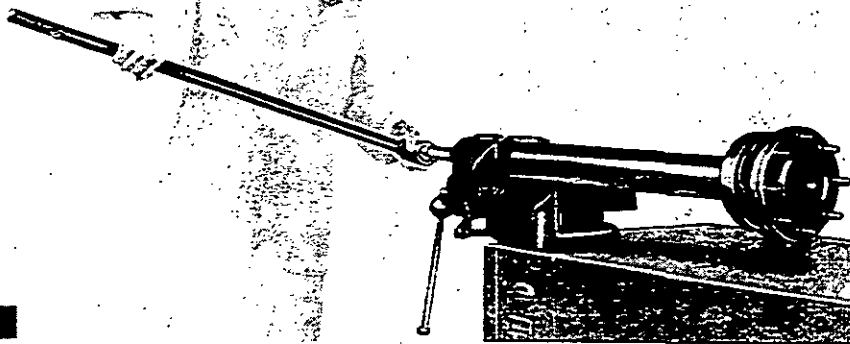

FIG. 3
2. Drill into the side of the bearing retaining collar (8).
3. Fig. 3. Assemble the bearing remover tool MF 26B over the axle shaft and secure the tool to the hub studs. Using the MF 26A Wrench force the axle shaft out of the hub and bearing assembly (7) and collar (8) as shown.
4. Remove the special tools MF 26A and MF 26B, then remove the collar, hub and bearing assembly, and oil seal (6) from the axle shaft.